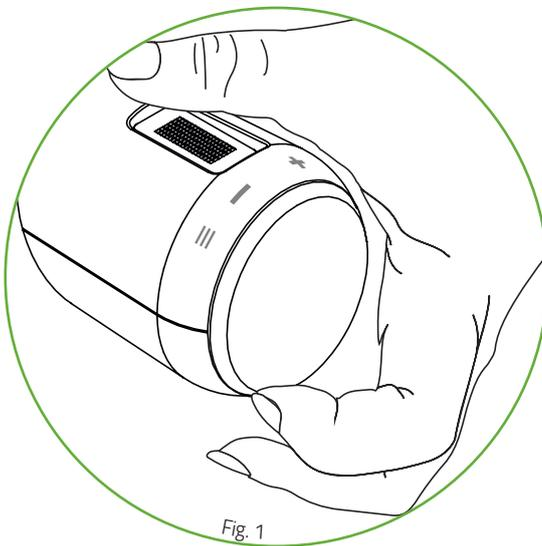

Fig. 1
1. Remove the battery cover by pulling it upwards at the notch (Fig. 1).